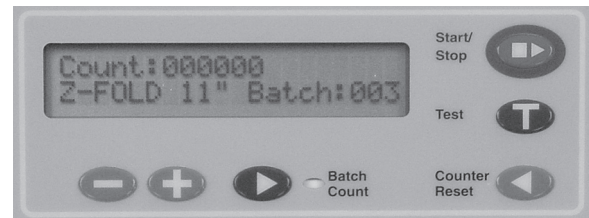

Fig. 9a
2. Select the number of sheets to be folded by pressing the “+” or “-” buttons (Fig. 9a) , then press the “Start/stop” button to start.